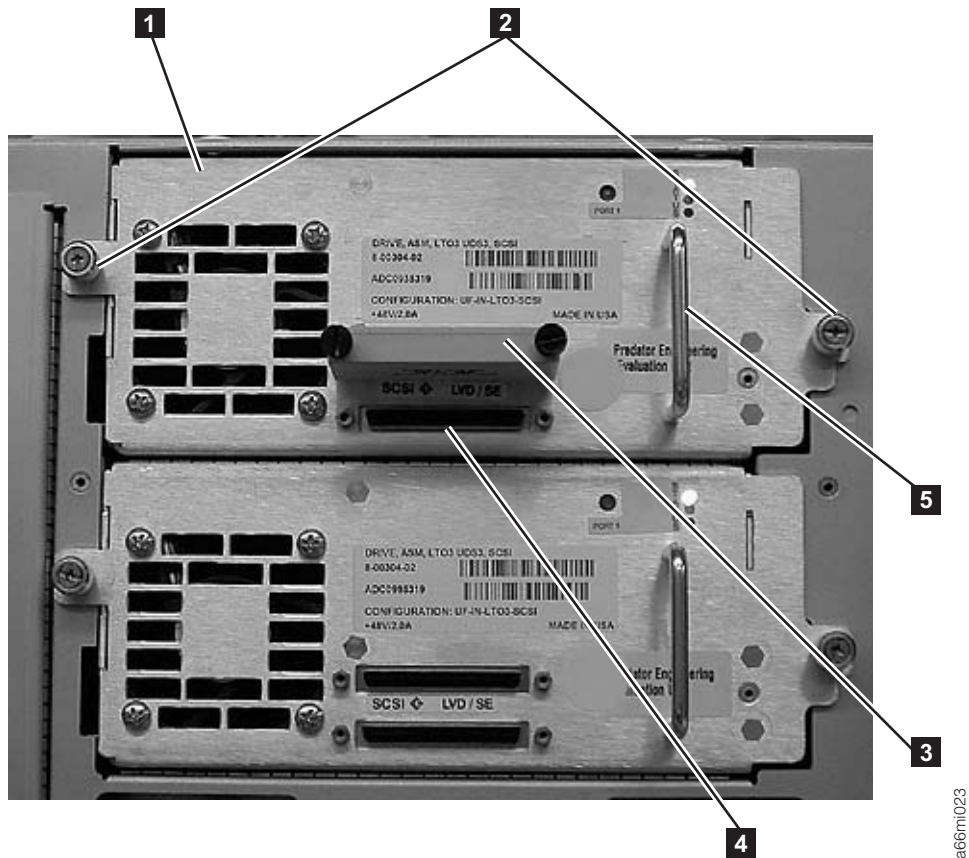

Figure 3-37. Tape drive (detail)
2. Grasp the handle (**5** in Figure 3-37 on page 3-34) and slowly slide the drive sled into the drive slot, while the drive sled is supported from underneath.
3. Tighten the two thumb screws (**2** in Figure 3-37) that hold the drive sled in place by turning them clockwise.